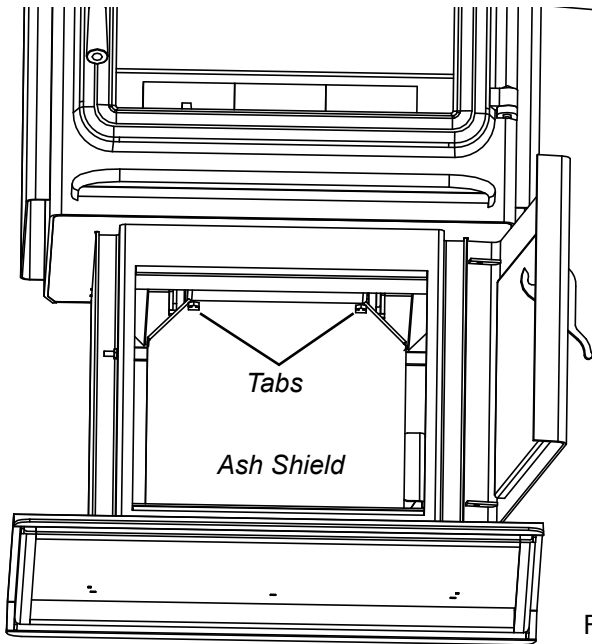
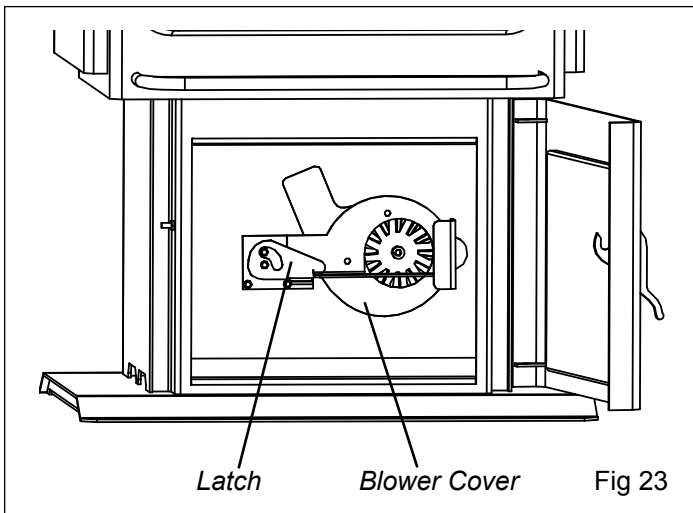

Fig 22
Fig 23
1. Remove Ash Pan then remove ash shield behind Ash Pan, fig.22. Lift the shield up and forward in order to remove it from the stove. This will expose the Blower Cover and Latch, fig.23.